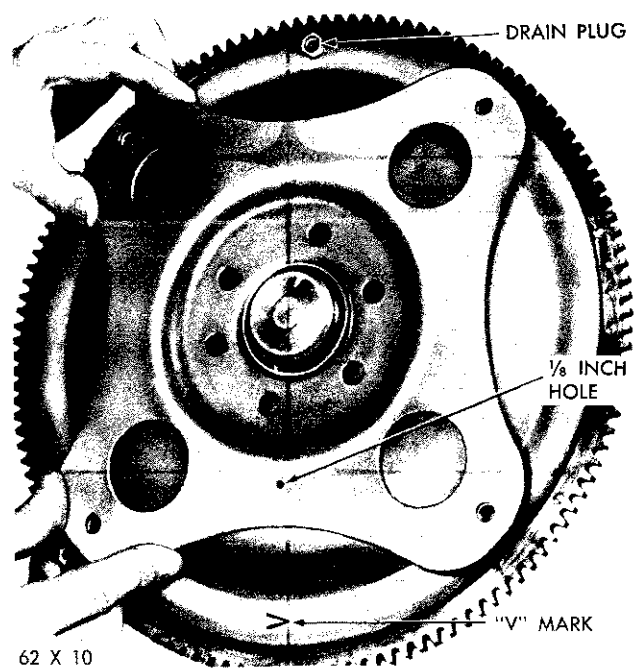

Fig. 91—Converter and Drive Plate Markings
(3) Attach a small "C" clamp to the edge of the converter housing to hold the converter in place during transmission installation.
(4) Inspect the converter drive plate for distortion or cracks and replace if necessary.
(5) Coat the converter hub hole in the crankshaft with wheel bearing lubricant. Place the transmission and converter assembly on a service jack and position the assembly under the vehicle for installation. Raise or tilt as necessary until the transmission is aligned with the engine.
(6) Rotate the converter so mark on converter (made during removal) will align with mark on drive plate. The offset holes in the plate are located next to the $\frac{1}{8}$ inch hole in the inner circle of the plate. A stamped V mark identifies the offset hole in the converter front cover (Fig. 91). Carefully work the transmission assembly forward over the engine block dowels with the converter hub entering the crankshaft opening.
(7) After the transmission is in position, install the converter housing bolts and tighten 25 to 30 foot-pounds torque.
(8) Install and tighten the two lower drive plate to converter bolts and tighten to 270 inch-pounds